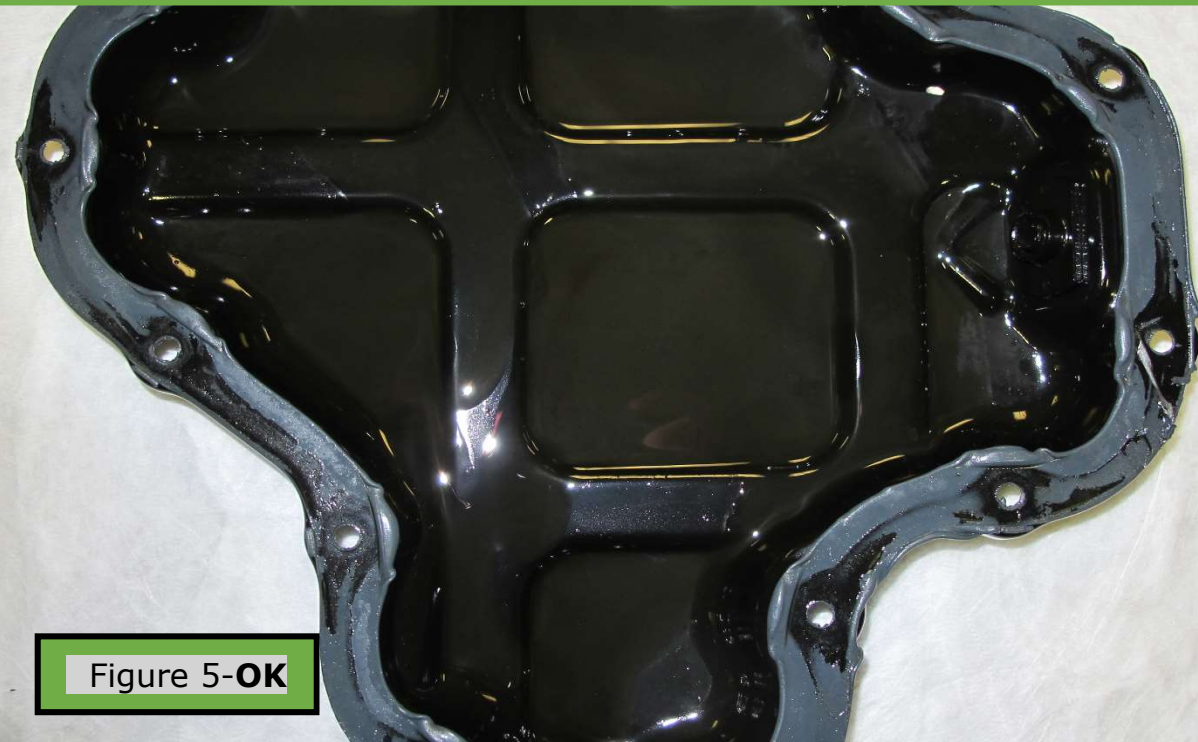

Figure 5-OK
- **No debris or black and silver debris** in the engine oil pan for this inspection is considered **OK (Figure 5)**